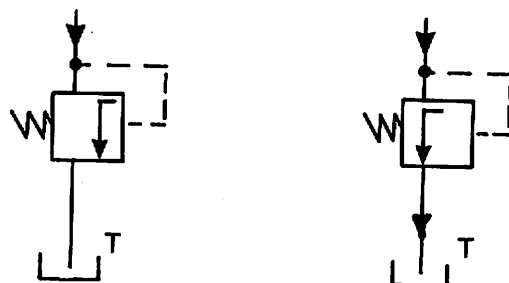

Figure 51.
- In a **relief valve**, Figure 51, you should imagine that the excess pressure acting through the loop line moves the 'arrow' across and oil pressure passes to the tank (T).